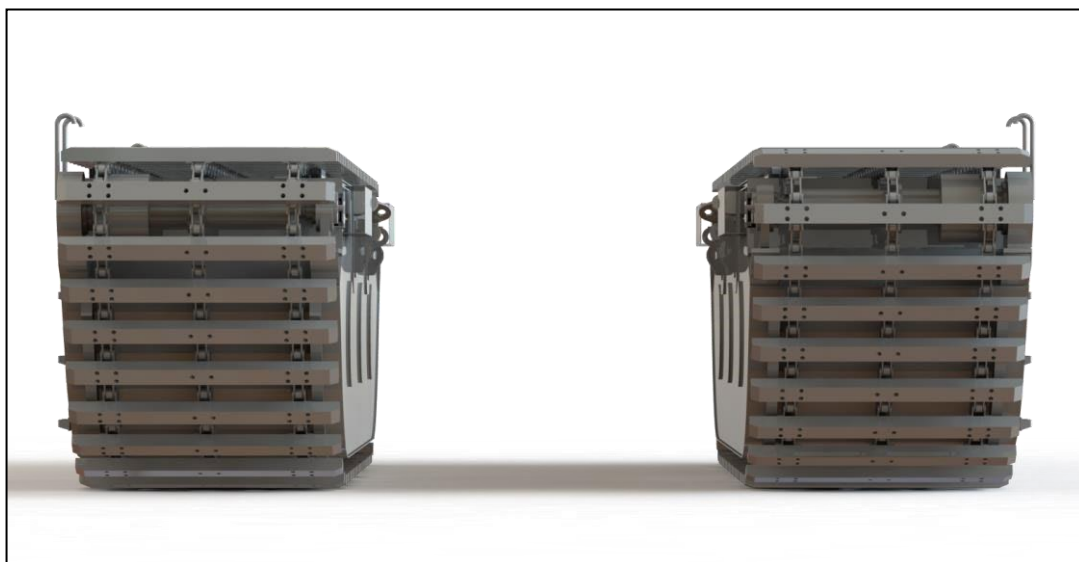

Figure 6.2
1. Get a crane of the required reach and size to lift the excavator undercarriage. Select an area of flat, level ground, large enough for the whole machine. Place and align the left and right undercarriage body components with the correct distance between them. Refer to Figure 6.2.